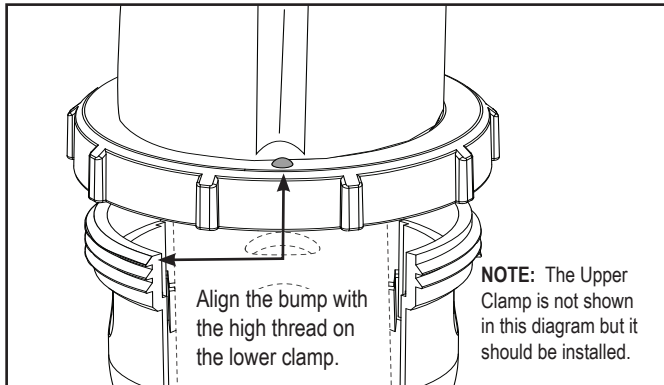

Figure 14. Locking Ring Alignment
- Position the locking ring in proper alignment, making sure the bump aligns with the top thread (see Figure 14).